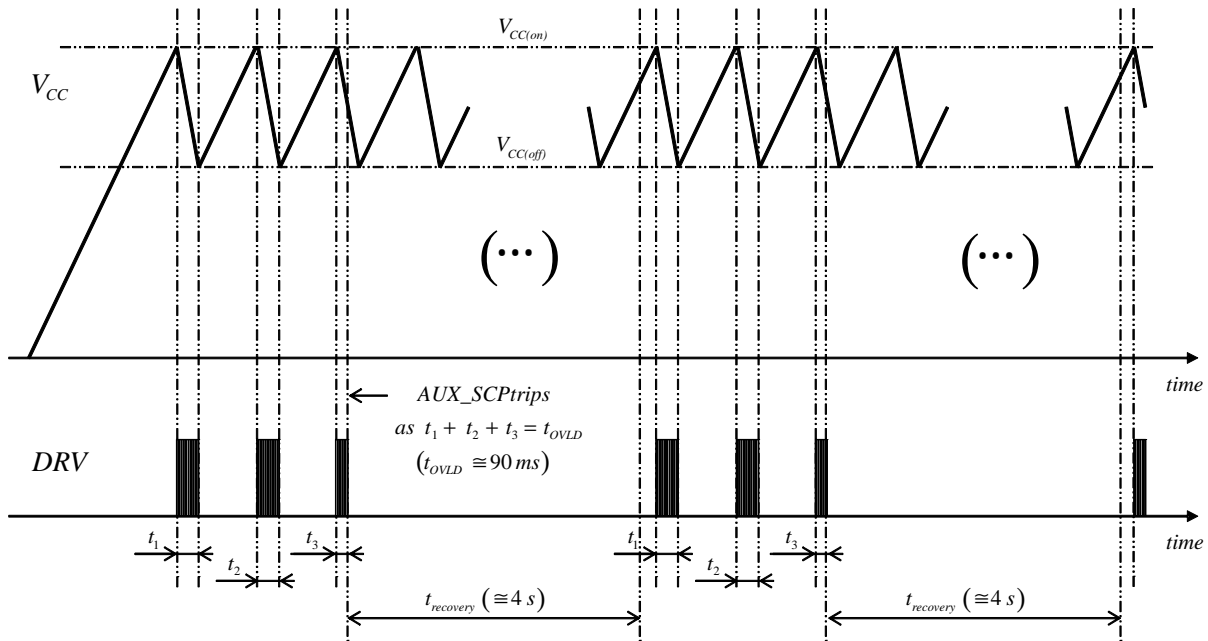

Figure 60. Start-up Sequence in a Load Short-circuit Situation (auto-recovery version)
- If the load is shorted, the circuit will operate in hiccup mode with  $V_{CC}$  oscillating between  $V_{CC(off)}$  and  $V_{CC(on)}$  until the AUX\_SCP protection trips (AUX\_SCP is triggered if the ZCD pin voltage does not exceed 1 V within a 90-ms operation period of time thus indicating a short to ground of the ZCD pin or an excessive load preventing the output voltage from rising). The NCL30185A latches off in this case. With the B version, the AUX\_SCP protection forces the 4-s auto-recovery delay to reduce the operation duty-ratio. Figure 60 illustrates a start-up sequence with the output shorted to ground, in this second case.